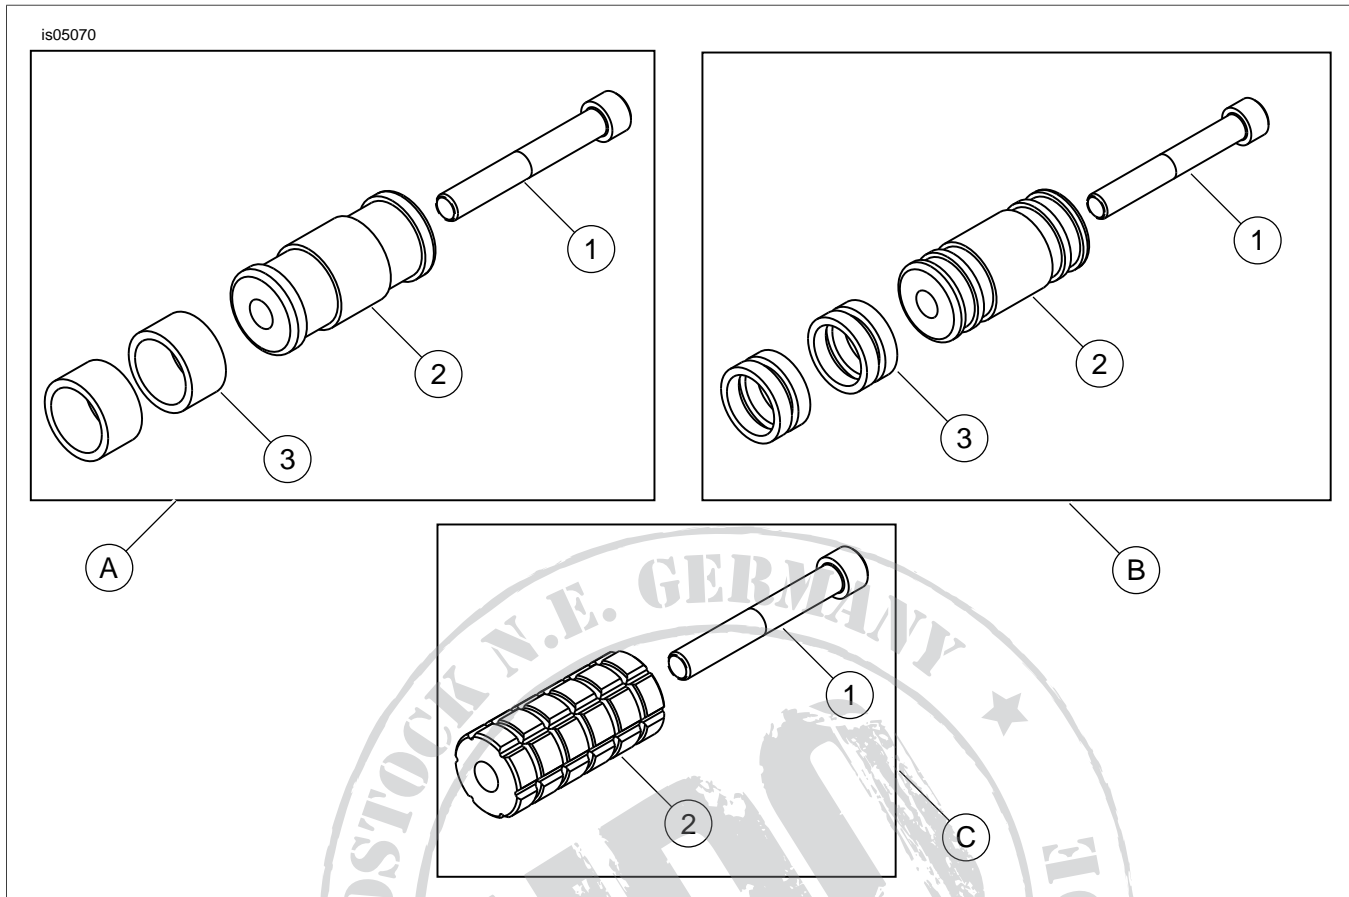

Figure 1. Service Parts: Billet Shifter Peg Kits
See Figure 1 and Table 1.
2. See Figure 1. Insert the screw through the peg into the shift lever. Tighten the screw to 11-15 ft-lbs (15-20 Nm).